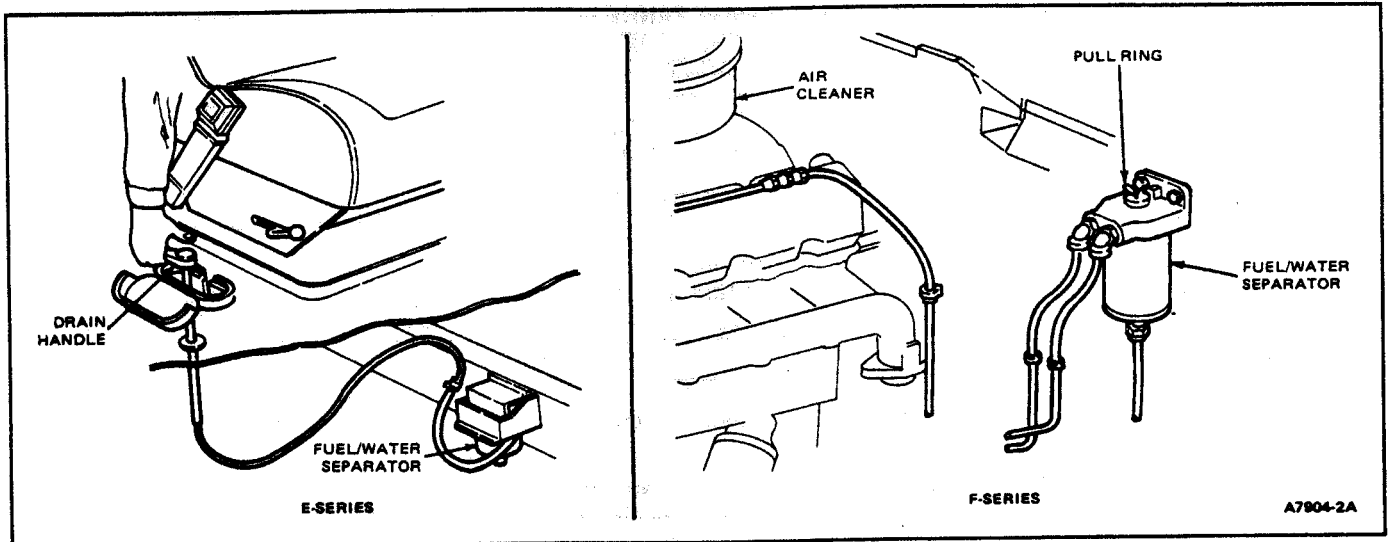

FIG. 4 Fuel/Water Separator—6.9L Diesel Engine
2. Place an appropriate container under the water separator to collect the water. The water separator is located inside of the driver's side frame rail in line with the front wheel (Fig. 4).